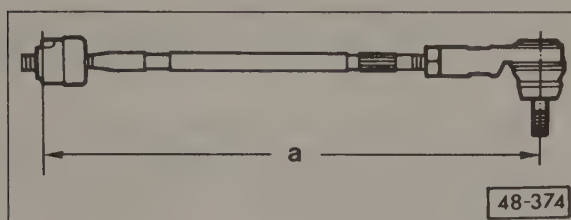

Fig. 7-9. Setting basic length of adjustable tie rods for power-assisted steering. Dimension **a** is 379.5 mm (14.938 in.).
5. Adjust the length of the adjustable tie rods by loosening the outer tie rod end locknut and screwing the tie rod end in or out. Adjust the length to 379.5 mm (14.938 in.), as shown in Fig. 7-9.